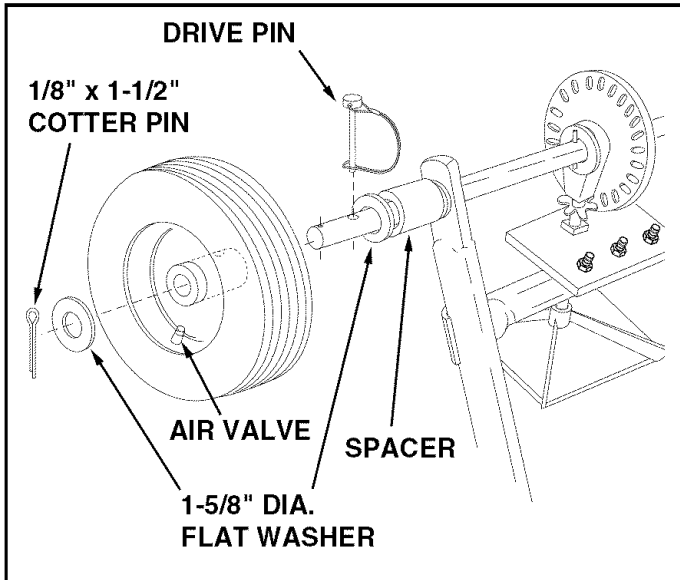

FIGURE 4
- Assemble a spacer, a 1-5/8" flat washer, a wheel (air valve facing out) and another 1-5/8" flat washer onto the end of the axle that has both the **large and small holes**. See figure 4.
- Install a 1/8" x 1-1/2" cotter pin into the small hole in the end of the axle. See figure 4.
- Open the bail on the drive pin and install it through the wheel and the large hole in the axle. Close the bail to lock the pin in place. See figure 4.
(Refer to figure 4 on page 7.)